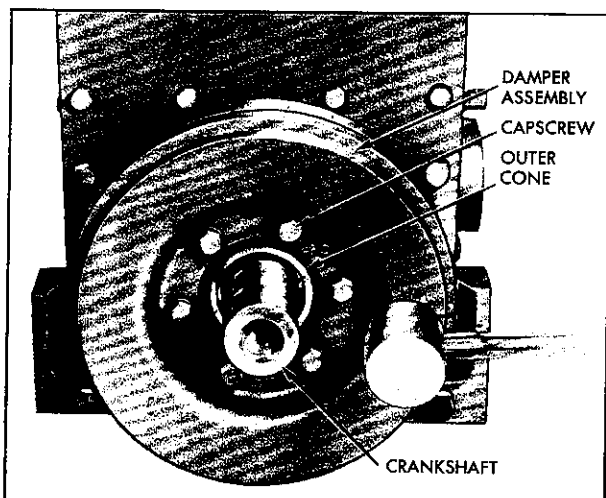

Fig. 10—Removing Vibration Damper Front Cone Lock.
2. Strike the front face of the damper, near the outside diameter, a sharp blow with a heavy rubber hammer, as shown in Fig. 10, to loosen the outer cone wedged between the crankshaft and the damper hub. After loosening in this manner, the cone may be "fished" from beneath damper hub with two screwdrivers at opposite diameter of cone.